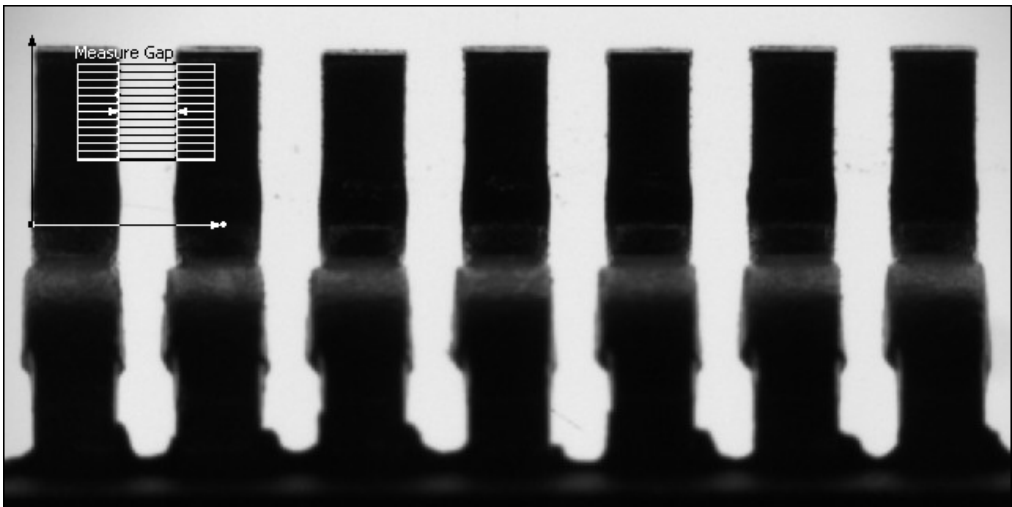

Figure 7-7. Measuring the Distance Between Pins
5. Draw an ROI over the gap between the first two pins, as shown in Figure 7-7.